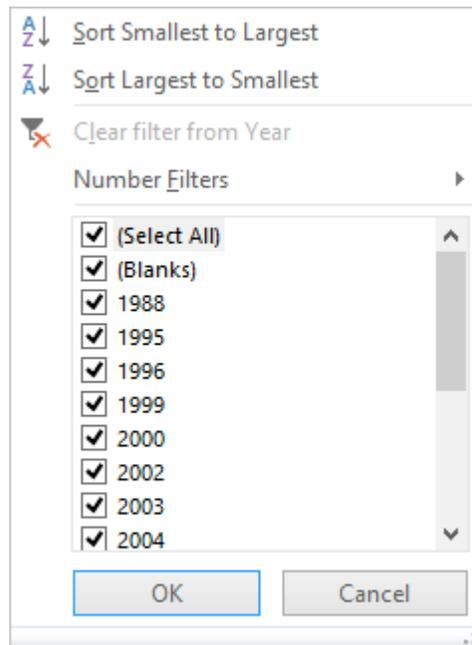

Figure 32: Filter Menu
3. **Filter:** To activate the filter tool, choose the **Home** → **Filter** button in the Sort & Filter group. The Filter menu appears as shown in Figure 32. You also can select a specific value to filter or use a number filter providing a comparison on the selected value. The number filter is also available in the **Home** → **Selection** list ( Selection ▾) in the Sort & Filter group